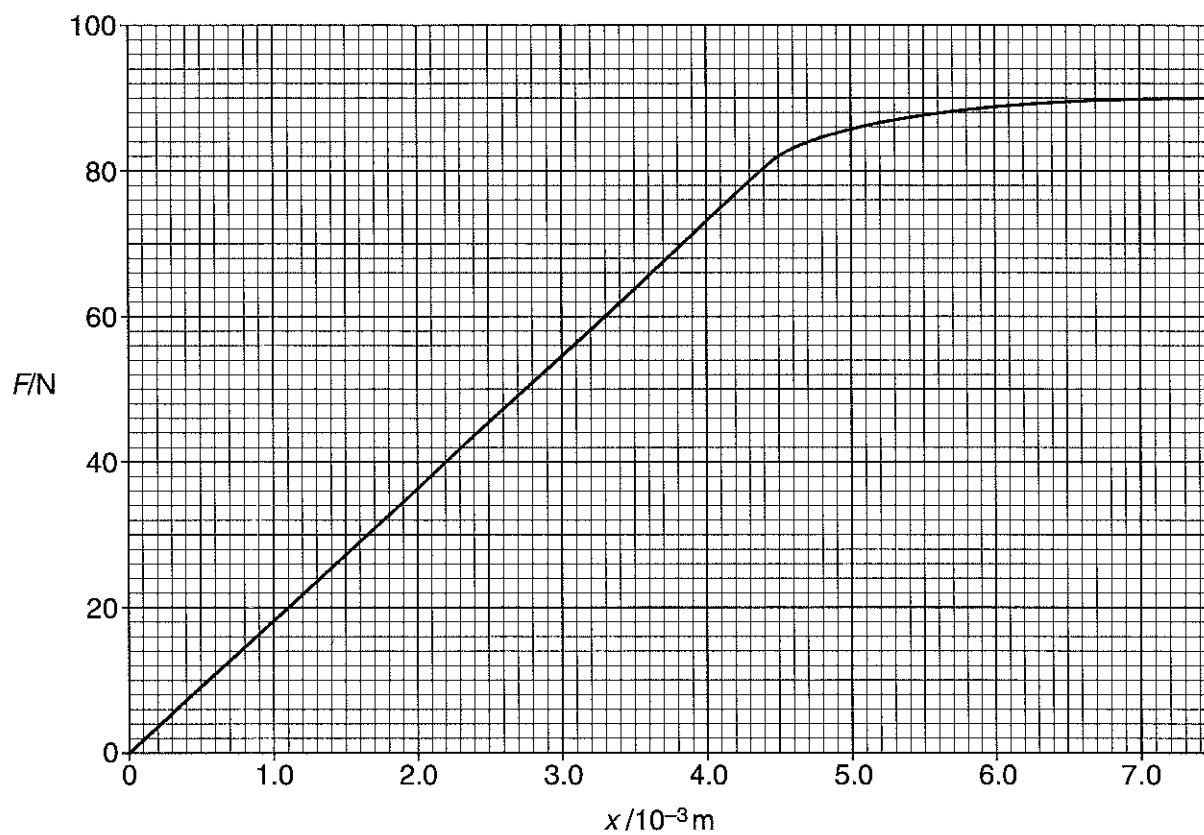

Fig. 6.1
- 6 Fig. 6.1 shows the force F against extension x graph for a copper wire.
- (a) The original length of the wire was 4.0 m and its cross-sectional area $6.3 \times 10^{-7} \text{ m}^2$. Use Fig. 6.1 to calculate
Describe the behaviour and properties of the copper wire shown by Fig. 6.1 and compare with the behaviour and properties of a stretched glass fibre.